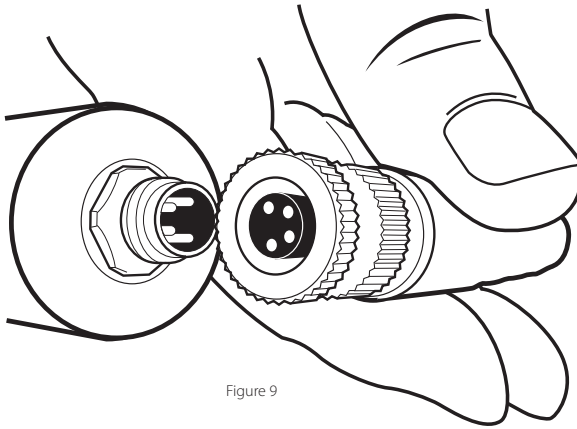

Figure 9
5. Pick up the female end of the **Power Cable** and align it with the connector protruding from the tube (figure 9).